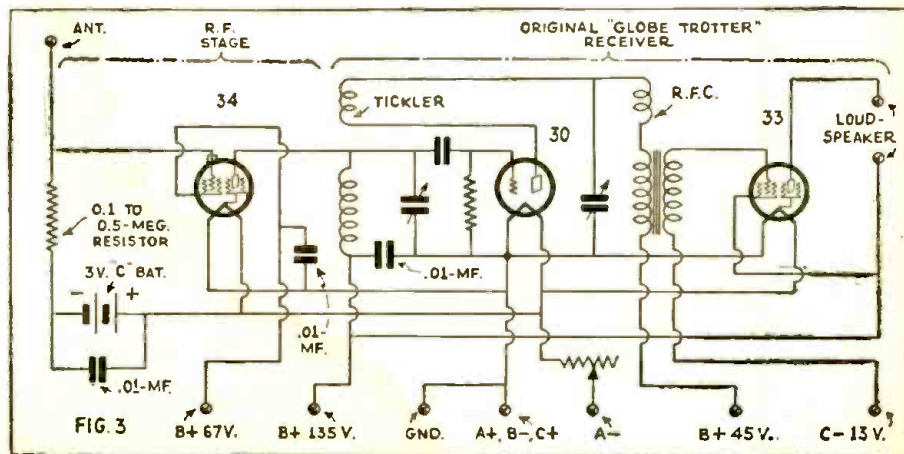

Fig. 3—Many requests have been received for a diagram showing how to add an R.F. stage to the "Globe-Trotter" receiver described in the November issue.
(Q) Quite a number of people have asked for a circuit showing the addition of an untuned R.F. stage to the popular "Globe Trotter" receiver described in the November, 1932, issue of SHORT WAVE CRAFT. The diagram appears herewith in Fig. 3. As the original plug-in coils contained only two windings, a grid coil and a tickler, it is necessary to make a slight revision in the detector circuit in order that plate voltage may be fed to the R.F. tube. Note also that the grid-leak now runs between grid and filament instead of across the grid condenser. The .01 mf. blocking condenser must be a good one with mica insulation. It is too large to